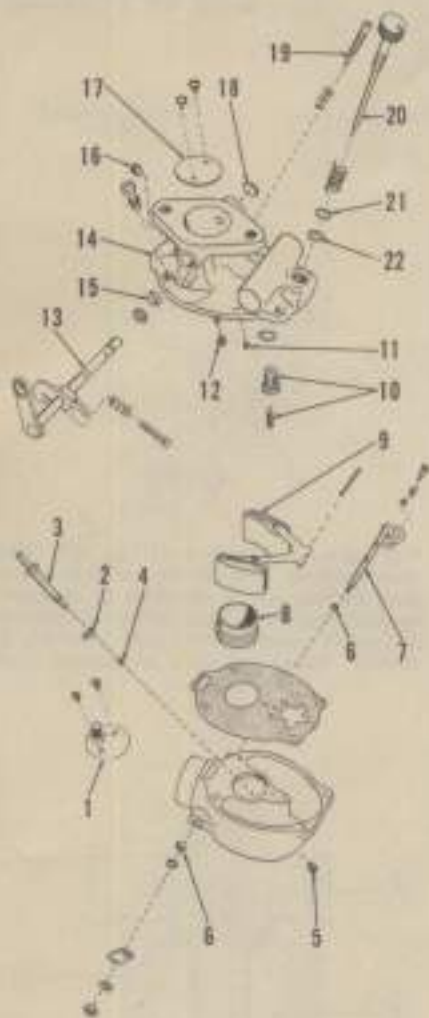

Fig. 58—Exploded view of Marvel-Schebler carburetor typical of TSX-670, TSX-701, TSX-815 and TSX-844 models.
99. D-14 tractors were equipped with either a Marvel-Schebler TSX-670 or TSX-701 carburetor similar to the type shown in Fig. 58. Float setting should be  $\frac{1}{4}$  inch from nearest face of float to gasket surface of throttle body (14) with needle (10) closed.
D-15 tractors have been equipped with Marvel-Schebler carburetors TSX-815 (Fig. 58); TSX-844 (Fig. 58) and TSX-869 (Fig. 59). Float setting should be  $\frac{1}{4}$  inch from nearest face of float to gasket surface of throttle body (14) with needle (10) closed.